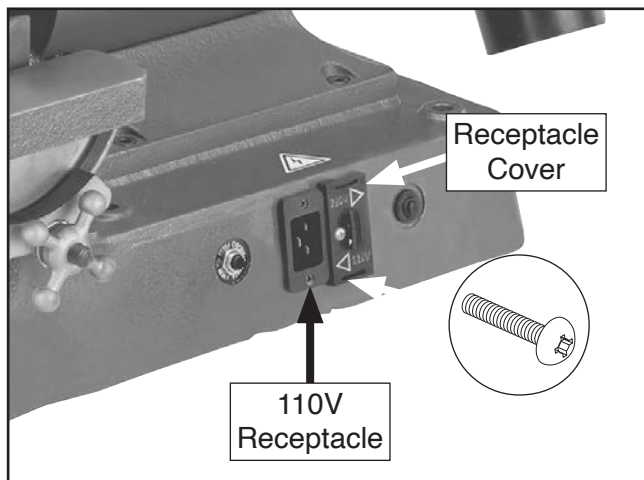

Figure 24. Location of 110V receptacle.
1. Connect 12AWG power cord with 5-15 plug to receptacle shown in **Figure 24**.
Note: Receptacle cover must be moved right to reveal 110V connection receptacle. To move cover right, remove screw shown in **Figure 24**, move cover right, then install screw to secure.